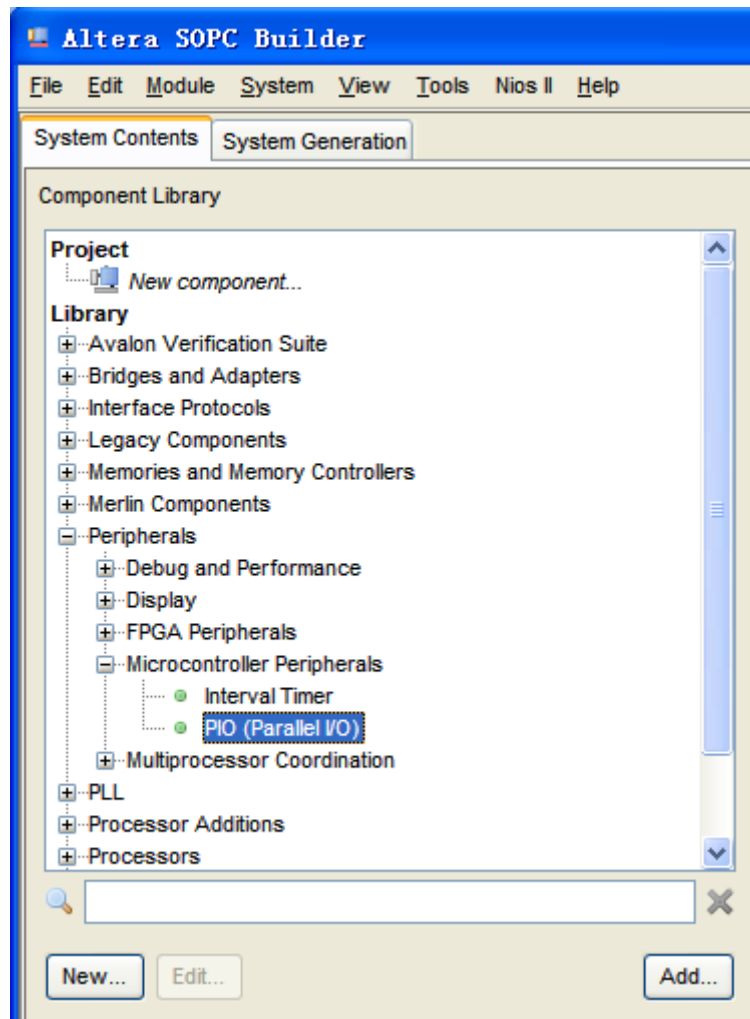
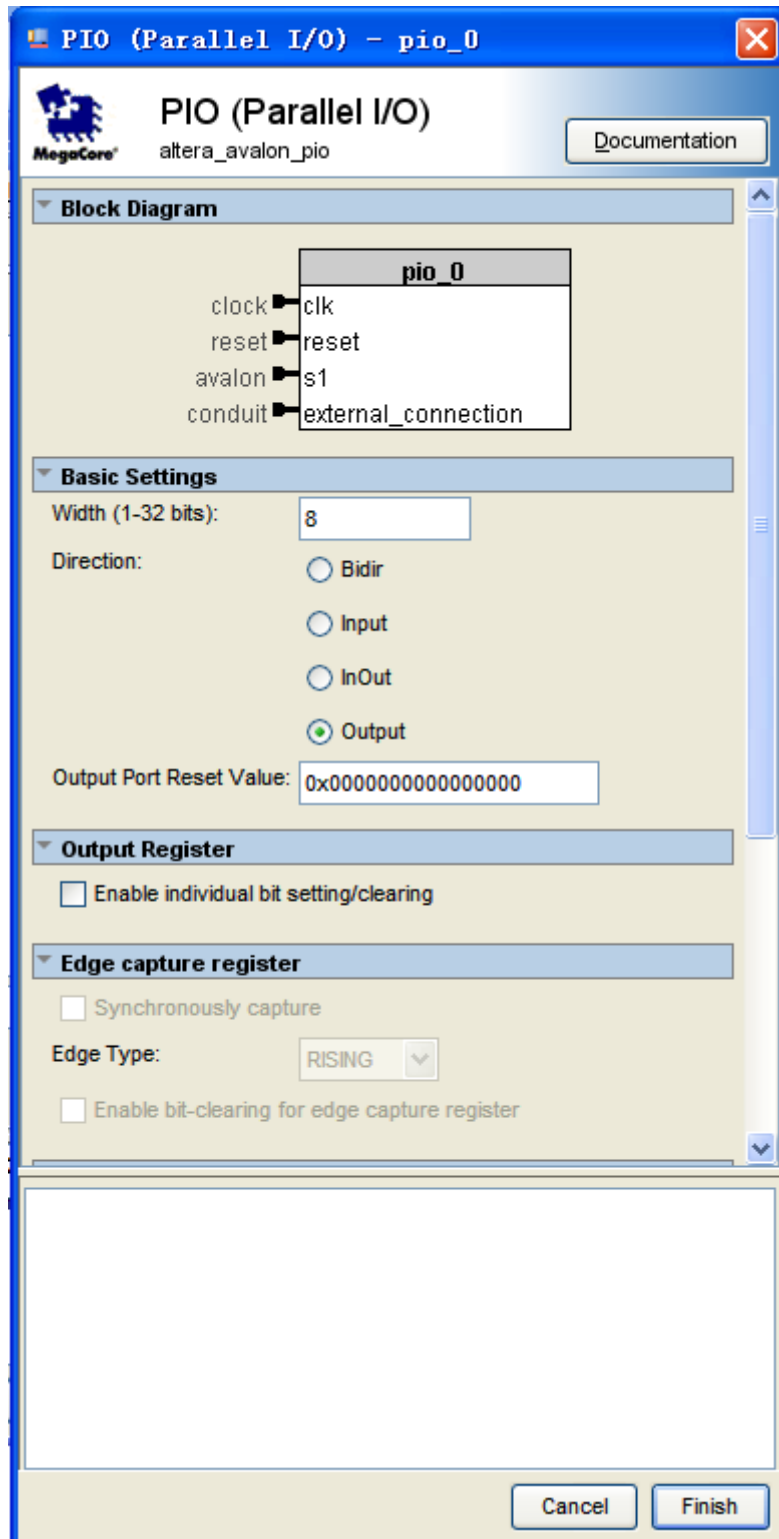

Figure 7-30 Add PIO
Figure 7-31 Add PIO
19. Add the **Library > Peripherals > Microcontroller Peripherals > PIO (Parallel I/O)** component to the system, as shown in **Figure 7-30** and **Figure 7-31**.